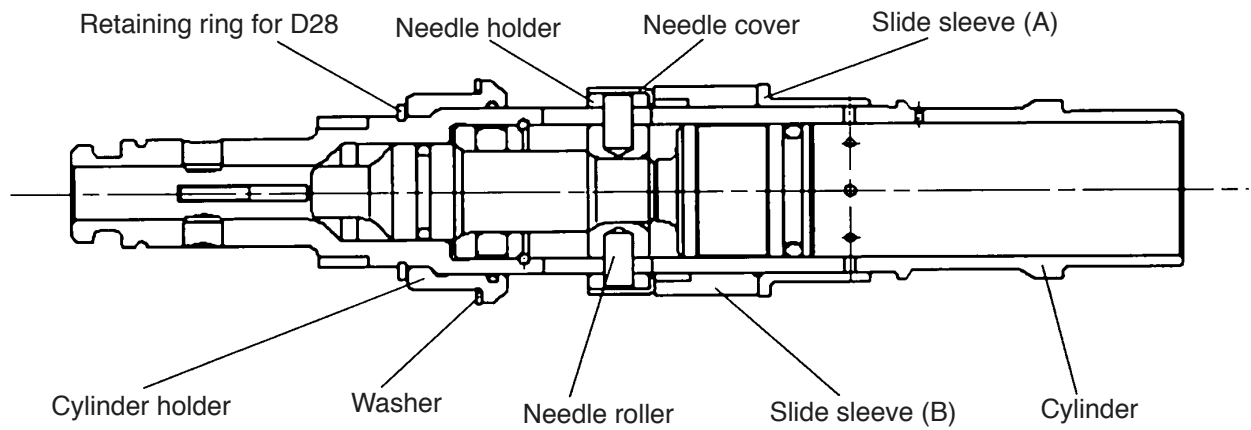
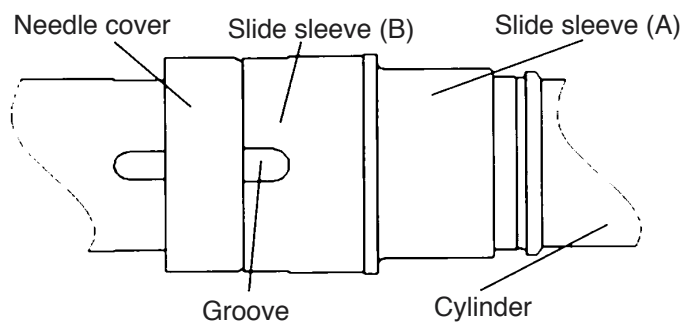
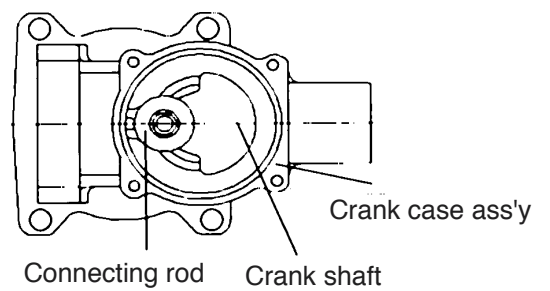

Fig. 25
Fig. 26
Fig. 27
Slide Sleeve (A) [21], Slide Sleeve (B) [20], Needle Cover [19] and Needle Holder [17] are inserted in the outer circumference of the Cylinder [24]. Insert the four Needle Rollers [18] into holes of the Needle Holder [17] and the Slide Ring [32]. Make sure of the direction of Slide Sleeve (B) [20] (Fig. 26). Mount O-ring (A) [16] to the Cylinder Holder [15]. The cylinder holder ass'y is inserted in the outer circumference of the Cylinder [24], then the Retaining Ring for D28 Shaft [13] is attached in the Cylinder [24] by means of a snap ring remover. The Washer [14] is inserted in the outer circumference of the Cylinder Holder [15] then insert the Cylinder [24] into the Cylinder Case [9] (Fig. 25). Spring (A) [22] and the Thrust Washer [25] are inserted in the outer circumference of the Cylinder [24], then the Cylinder Case [9] is combined with the Crank Case [46]. It will become easy if the Crank Shaft [40] is moved to the bottom dead center at this time (Fig. 27).